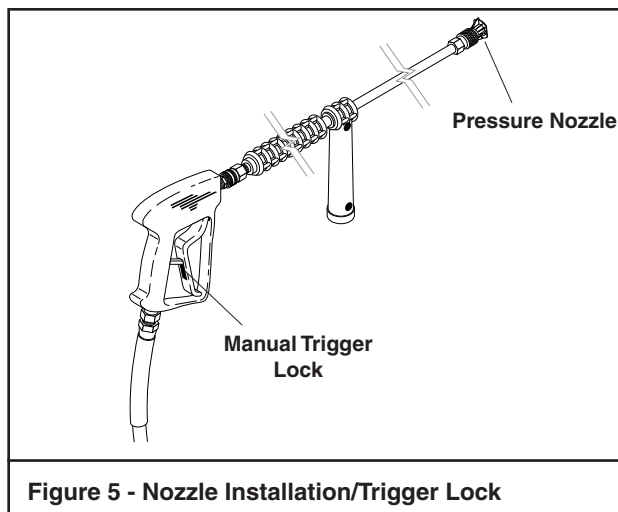

Figure 5 - Nozzle Installation/Trigger Lock
1. Install the proper pressure nozzle for your cleaning needs on the end of the wand. Refer to **Figure 5**.
**IMPORTANT: The trigger gun provided with this pressure washer is equipped with a manual trigger lock to prevent accidental operation of the trigger gun; refer to Figure 5. The trigger lock should be used whenever the trigger gun is not in use.**